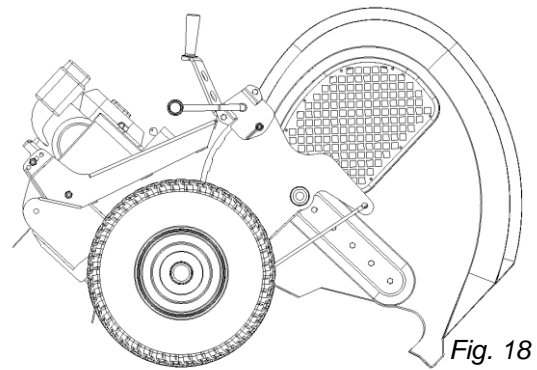

Fig. 18
8. Place the machine on its back edge (see Fig. 18) so you have easy access to the brush assembly.